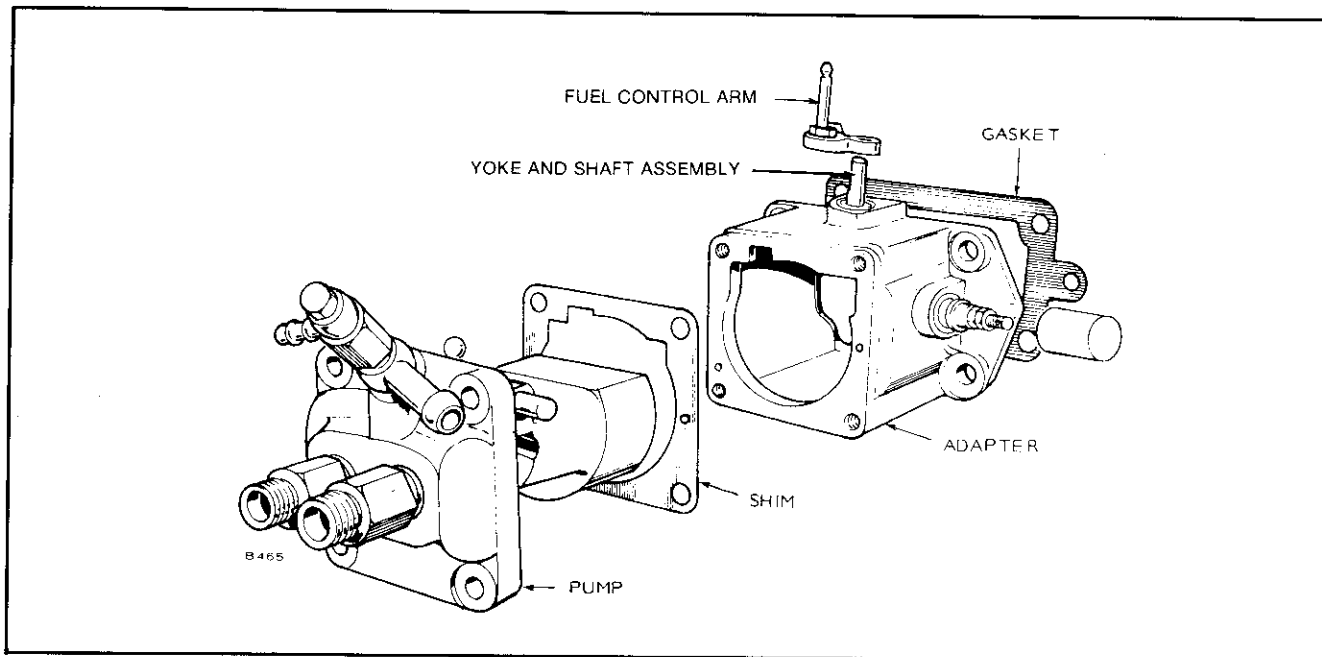

FIGURE 3-50. PUMP AND ADAPTER ASSEMBLY
2. Using proper shim thickness (Figure 3-50), install pump to adapter with four socket head capscrews and lock washers. Torque to 20 to 24 ft-lbs 27-33 N•m).
5. Reinstall fuel control arm on yoke and shaft assembly, Figure 3-50. Tighten socket head screw, but do not over tighten.